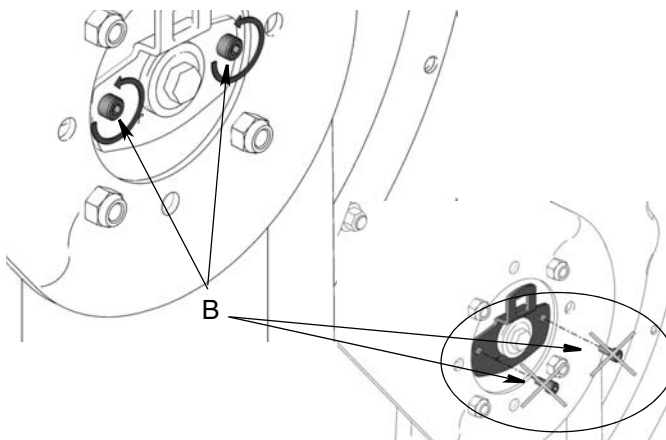

FIG. 16
2. If they are not already loose, loosen (B) 3-5 turns. Do not remove (B) yet (FIG. 16).